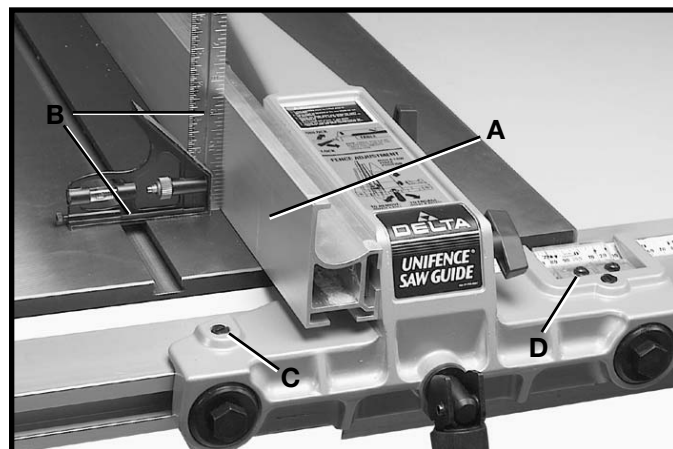

Fig. 116
Adjust the fence so that the face of fence (A) Fig. 116 is 90 degrees to the table. To check if the fence is 90 degrees to the table, place a square (B) on the table with one end of the square against the fence. If an adjustment is necessary, tighten or loosen one of two screws (C) or (D) until the fence is 90 degrees to the table. **IMPORTANT: VERY LITTLE MOVEMENT OF THESE SCREWS (C) AND (D) IS NECESSARY TO MAKE THIS ADJUSTMENT.**